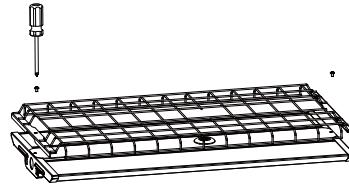

Figure 8
Step2.Place the wire guard on the lamp and fix it with screws.(Figure 8)